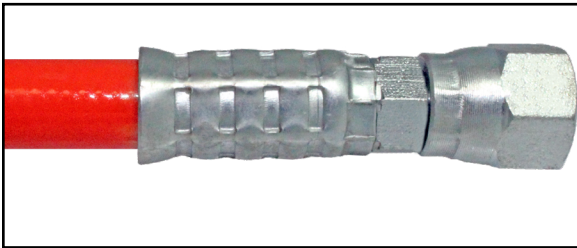

Fig.11
14. Measure and make the hydraulic hoses (orange for extend, black for retract) (**Fig.11**). Measure from the rear leveling jack to the mid leveling jack. Add 3 feet to this measurement to ensure that there will be enough hose material to run between jacks and prevent kinking. This will be the measurement for the extend and retract hoses between the mid and rear jacks. For example, if the measurement is 9 ft., two 12 ft. orange hoses and two 12 ft. black hoses would be made. One 9 ft. black hose will need to be made to connect the two rear jacks on the retract plumbing.